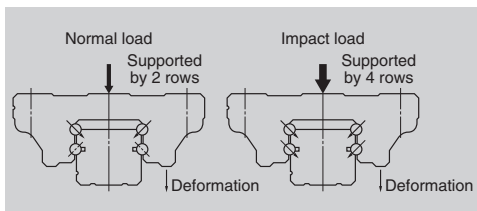

Fig. 5 Shock-resistance
- When a super-high load (impact) is applied, our Gothic arch groove spreads the load to contact surfaces which usually do not come into contact in ball type. This increases shock resistance (Fig. 5).